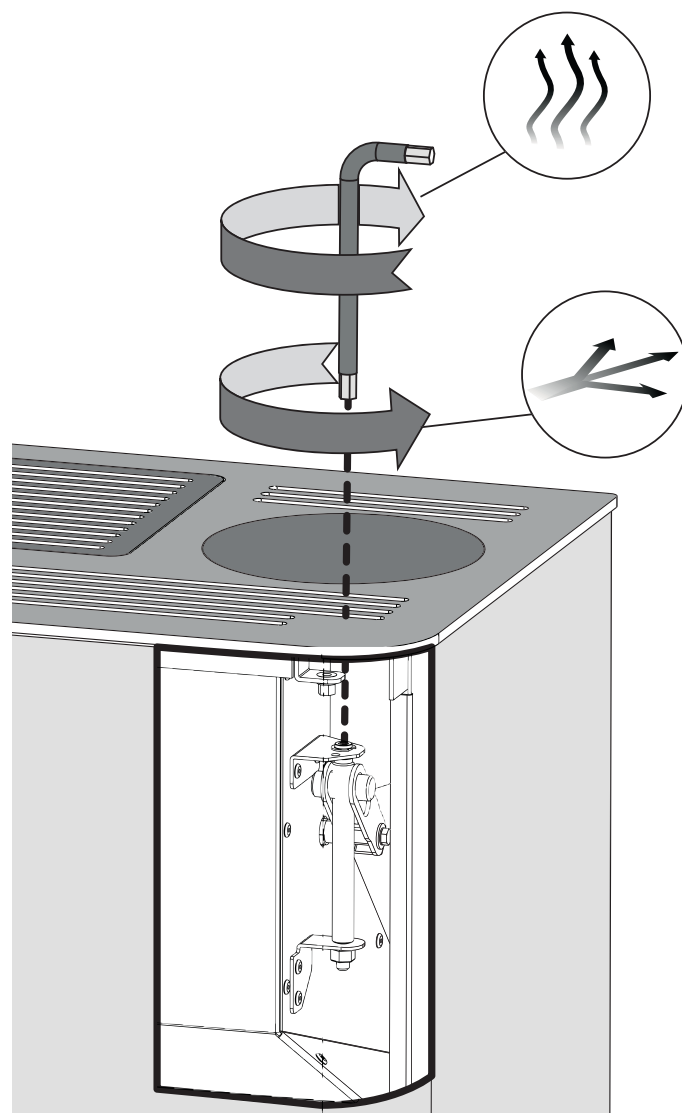

fig. 5.14
- Using the supplied wrench act on the adjustment screw that is accessible from the top grids of the stove (fig.5.14).